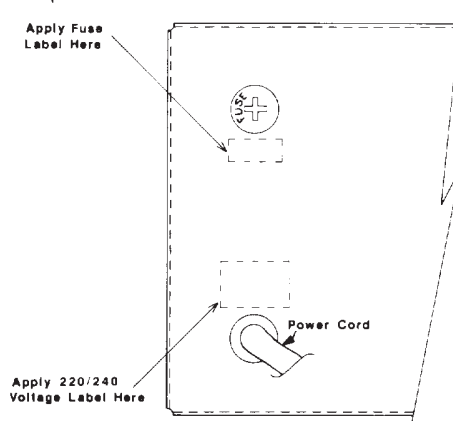

Figure 3. Application of International Stickers
8. Affix the 2-amp fuse/1707C, (4-amp/1715C) label over the original 3.5 amp/1707C, (7-amp/1715C) silkscreened designation. Refer to Figure 3 for where to place the fuse label.